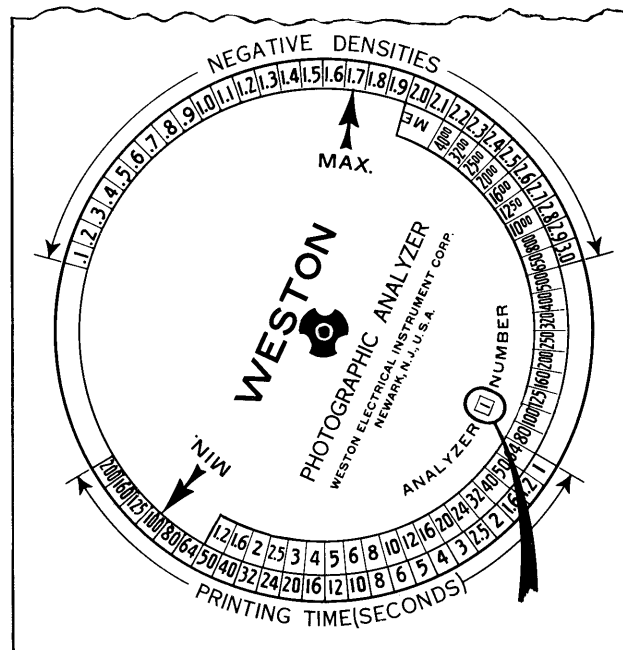

Fig. 13
- Set the Exposure Guide to a trial Analyzer Number of 1, and turn both dials until the MAX arrow points to a density value about $\frac{3}{4}$ of the density of the darkest step. Assume this to be 1.7 and set the MAX arrow accordingly. Now the Printing Time appears under the meter-candle value. See Fig. 13.